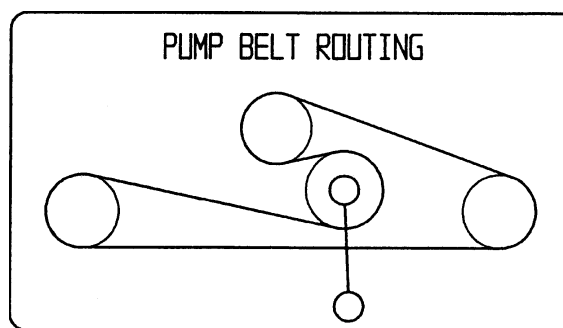

Figure 53
1. Pull spring loaded idler down and remove traction belt from the engine and hydro pump pulleys (Fig. 53). Remove belt between pulleys.
2. Install new belt around engine and hydro pump pulleys (Fig. 53).
3. Pull spring loaded idler down and align below traction belt. Release pressure on spring loaded idler (Fig. 53).